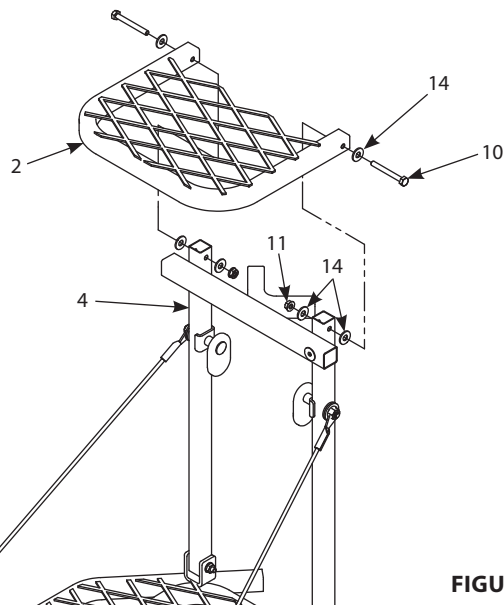

FIGURE 1A
1. Bolt the metal seat frame (2) onto the seat posts (4) using the two provided 1/4-20 x 2-1/4" bolts (10), 1/4-20 locknuts (11) and six nylon washers (14). **SEE FIGURE 1A FOR MODEL RE553 OR FIGURE 1B FOR MODELS RE554 AND RE555.**